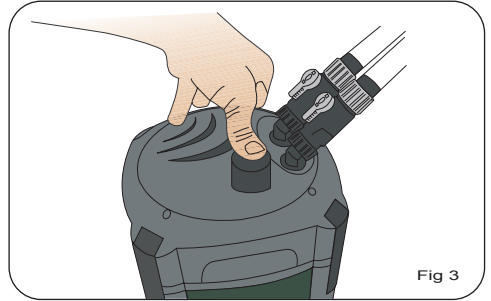

Fig 3
5. Remove the filter grid and the filter media baskets from the canister. Fig 3
4. Attach the taps to the inlet and outlet at the top of the filter head. There is a sticker on each tap and a label on the top of the unit which it corresponds to **IN** goes to **IN** & **OUT** to **OUT**. Fig 3
2. Press the primer down either with your thumb or your palm Fig 3
7. Remove the filter grid, extend the handles on the media baskets and remove them from the canister body. Fig 3